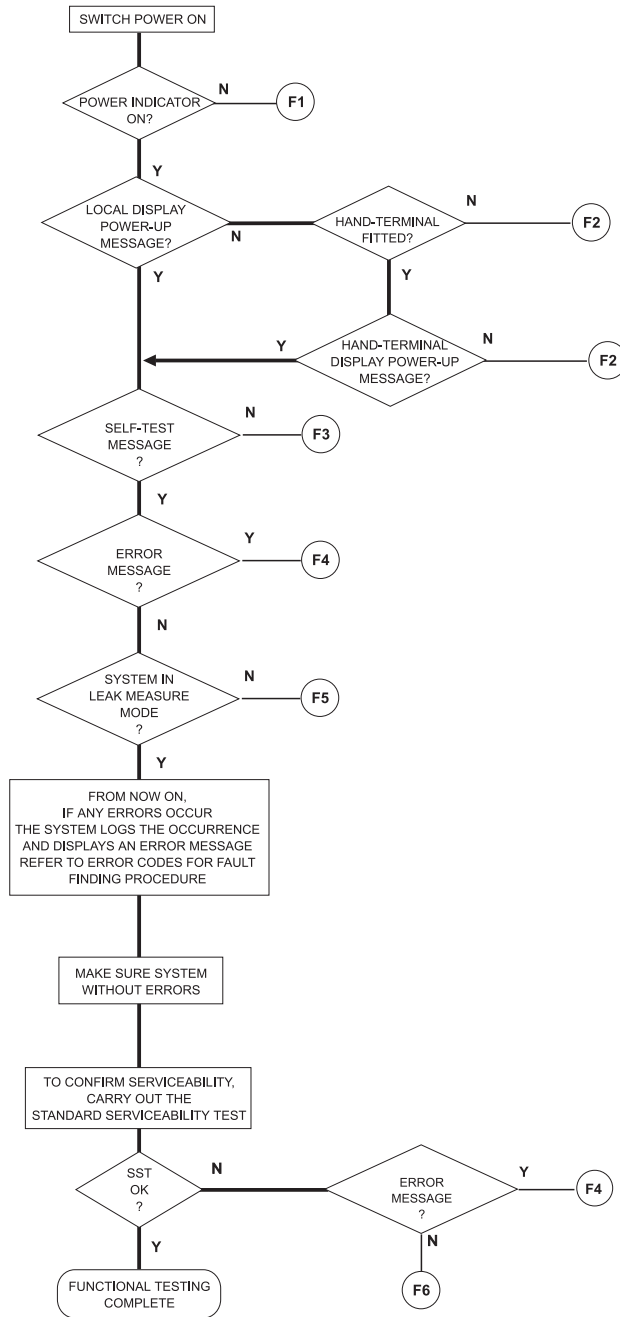

FIGURE 5-1 FAULT FINDING CHART
- ◆ If a fault occurs, refer to the fault location chart, Figure 5-1 and Table 5-1 for possible fault causes and recommended action.